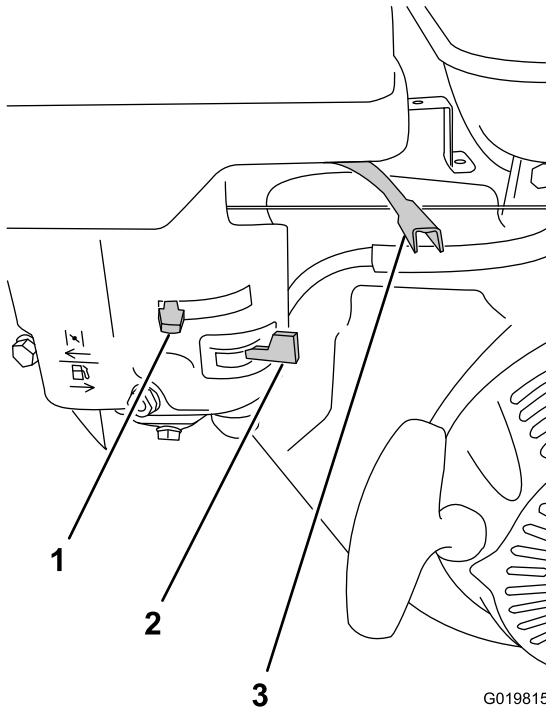

Figure 37
2. On the engine, move the throttle lever away from the Min position, 1/3 of the way toward the Max position (Figure 37); refer to Throttle Lever (page 13).
3. Move the lever of the fuel valve to the On position—all the way to the right (Figure 37); refer to Fuel Valve (page 13).
- To start a cold engine, move the choke lever to the Closed position—all the way to the left (Figure 37); refer to Choke Lever (page 13).
1. Move the throttle lever to the slow (turtle) position (Figure 37).
3. Move the fuel valve to the Off position (Figure 37) and rotate the engine On/Off switch to the Off position; refer to Engine On/Off Switch (page 13).